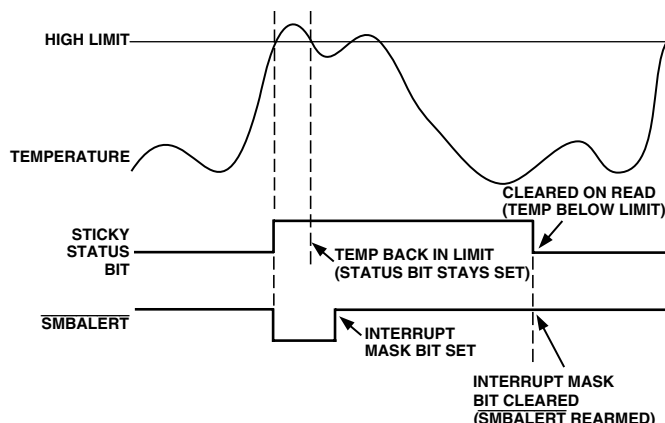

Figure 17. How Masking the Interrupt Source Affects  $\overline{\text{SMBALERT}}$  Output
7. Periodically poll the status registers. If the interrupt status bit has cleared, reset the corresponding interrupt mask bit to 0. This will cause the  $\overline{\text{SMBALERT}}$  output and status bits to behave as shown in Figure 17.